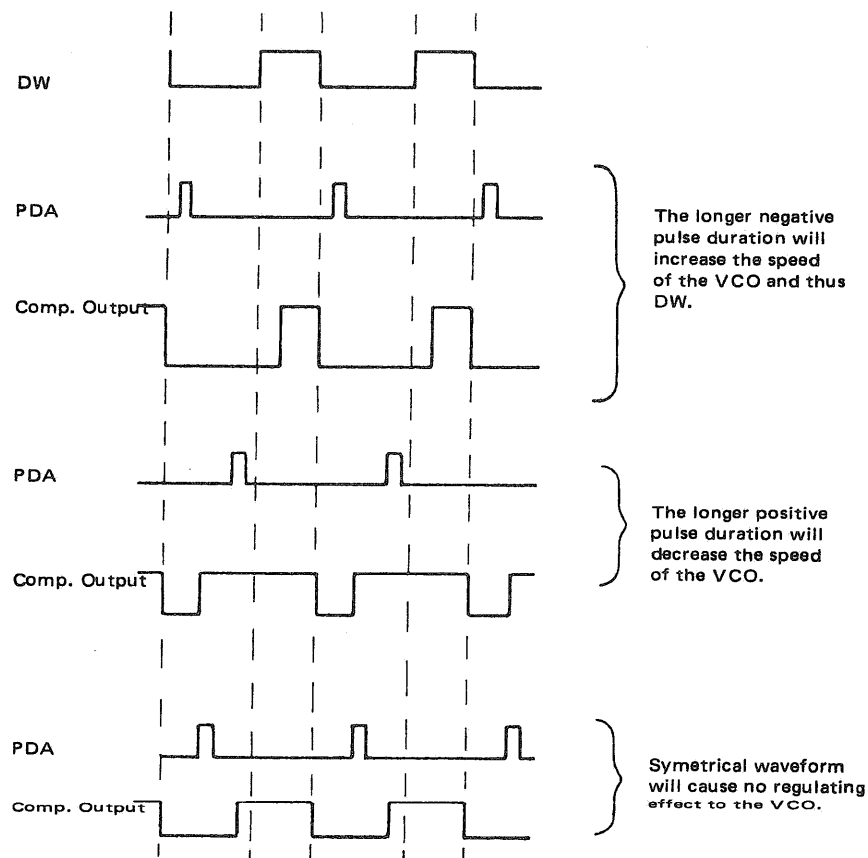

Figure 9.17: Phase Lock Loop – Regulating Effect
are normal. In the pre-amble part of the sector only clock pulses are written. If the clock pulses PDA are active during data window (DW) a 180° phase shift must take place. (As previously discussed.) When ③ out of phase pulses (P2) occur ④ a term "Skip" will be generated and reverse the phase of the DW. From this point P4 pulses will be generated ⑤ In the comparator ⑥ the phase relationship between P4 pulses and the PDA-pulses (read clock pulses) will be compared. If the PDA appears in the middle of the DW, (indicated by the P4 pulses) a symmetrical square wave (2.5MHZ) is fed to the current pump. The current pump will, in turn, feed an Error voltage ⑦ to the VCO and the Data Window frequency will increase until the phase relationship is normal again. Figure 9.17 will help illustrate the "Phase lock loop" regulating effect.